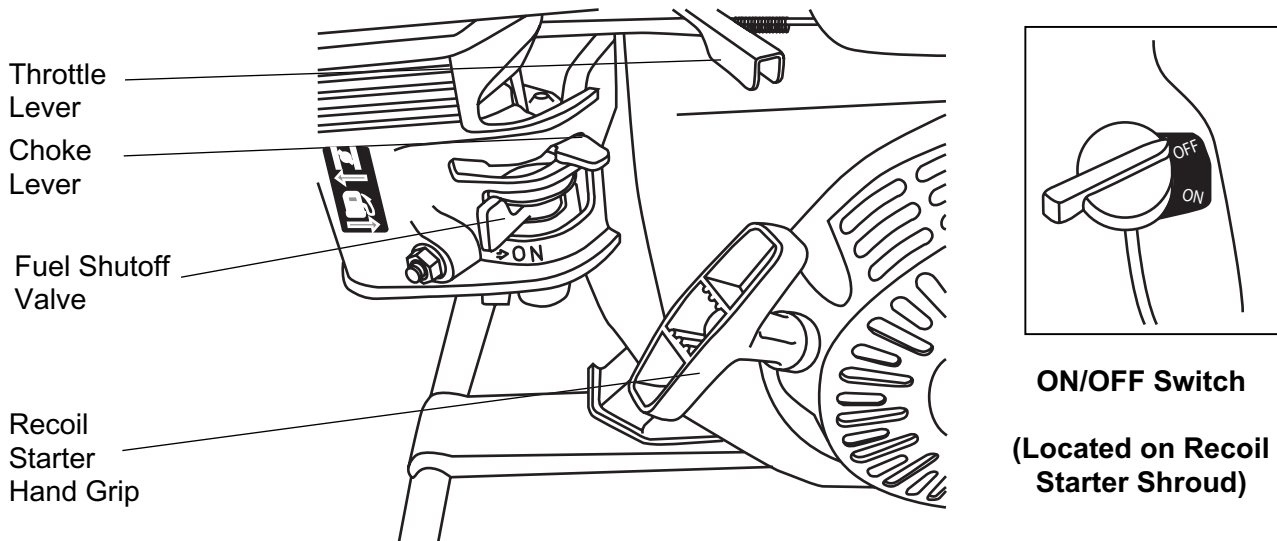

Figure 2-1: Operating Controls
- B. The controls consist of a throttle lever (for speed control), choke lever (for cold weather starting), fuel shutoff lever (to prevent fuel spills), and a recoil starter (to turnover engine by hand). (Refer to Figure 2-1.)